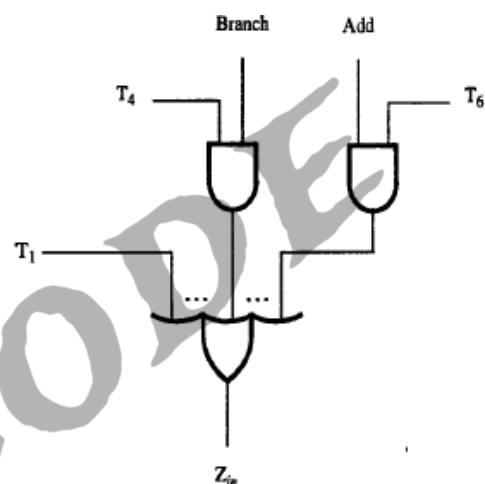

Figure 7.12 Generation of the Z_m control signal
- For example (Figure 7.12), $Zin = T1 + T6.ADD + T4.BR$